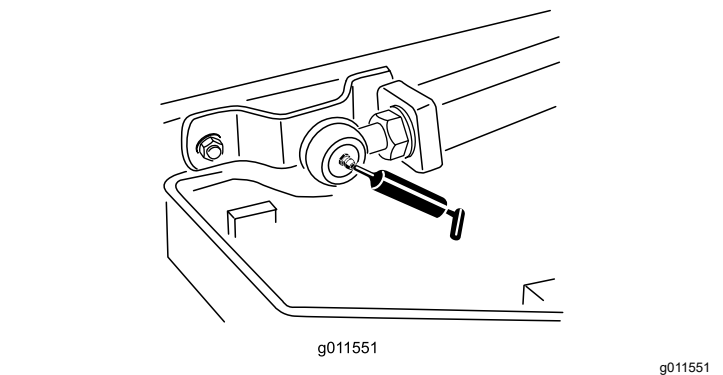

Figure 80
- 2 lift-arm-ball joints (Figure 80)